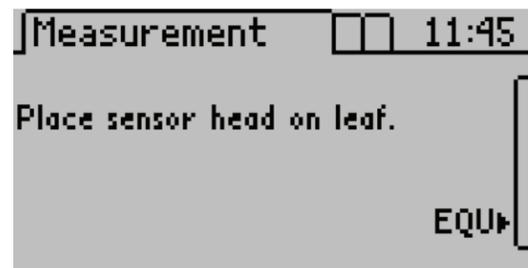

Figure 10 Prompt to place sensor head on the leaf
- Once the measurement chamber has dried and equilibrated, the Measurement tab will display a prompt to insert the leaf (Figure 10).